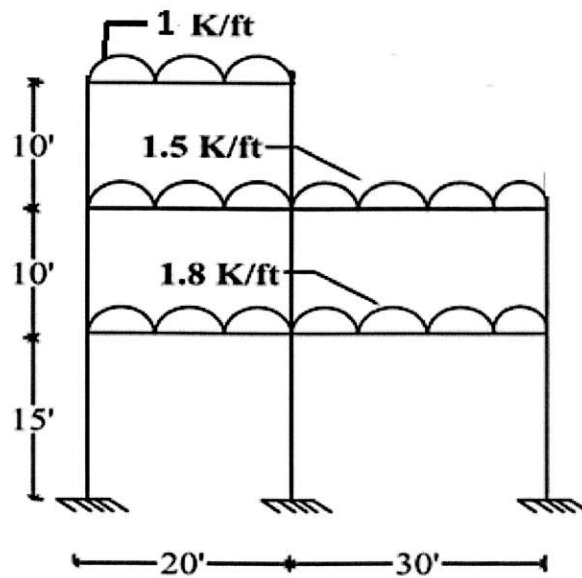

Figure 1
1. The frame shown in **Figure 1** is subjected to vertical loads as shown. Draw Shear force & Bending moment diagram for the entire structure using **Approximate method**.